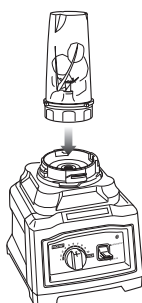
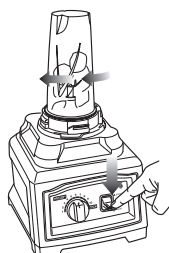

Fig. 10
Fig. 11
- 5 Turn the Nutri Ninja Cup upside down and place it onto the motor base, aligning the tabs on the cup with the motor base. (Fig. 10) Turn clockwise until the cup locks in place, the unit is ready for use. (Fig. 11)
- 6 Turn the Variable Speed Dial to the Single Serve icon. The Nutri Ninja Cup only operates at one speed regardless of which number is chosen on the dial. Press down on the "Start/Stop/Pulse" toggle in short intervals until you have reached your desired consistency. (Fig. 11)